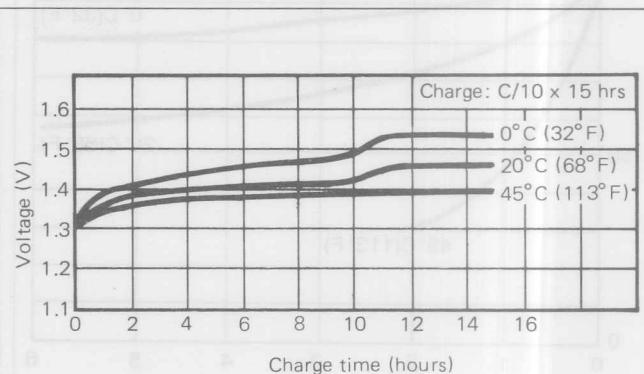

Fig. 6 Effect of temperature on standard charge
(A) The cell voltage varies with charging current and temperature (Fig. 6), but is usually within the range of 1.3 to 1.6V/cell. At the standard charging current (C/10), there is almost no increase in the final voltage at 45°C (113°F). But at 0°C (32°F), it can be seen that the voltage may decrease slightly after charging is completed.